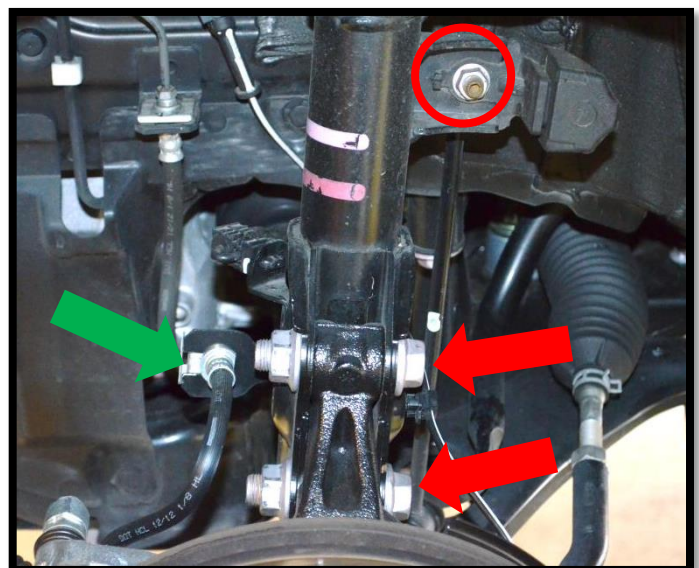

Figure 3b
- b) Pull the spindle up into the strut and line up the holes. Insert the 17mm bolts and 19mm nuts. Torque to 107-117ft-lbs (red arrows in Figure 3b).
- c) Re-install the sway bar end link. Thread on the 14mm nut and torque to 34-40ft-lbs (red circle in Figure 3b).
- d) Place the brake line back into the strut bracket and replace the clip (green arrow in Figure 3b).